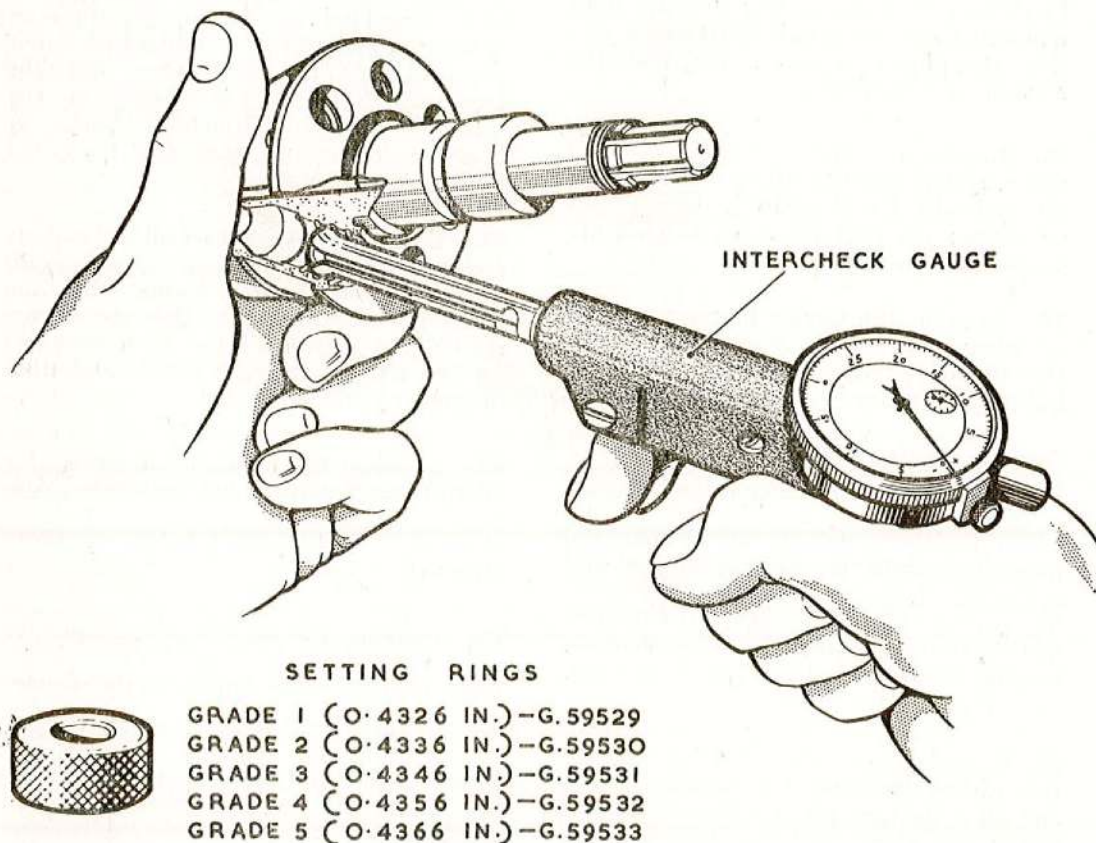

Fig. 17. Checking the rotor bores
87. Examine the rotor bores for scores or worn plating. Check the diameter of the bores in four positions with a small bore gauge and setting rings G.59529 to G.59533 as shown in fig. 17. The maximum worn clearances allowed between any one piston and bore is specified in Vol. 2, Part 2.